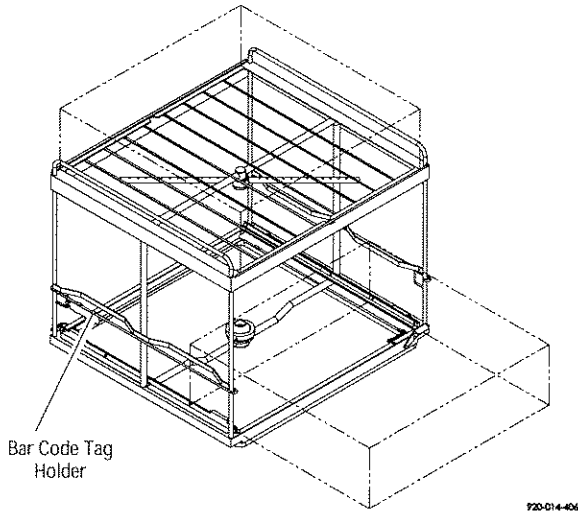

Figure 3-9. Two-Level Manifold Rack
- **Two-Level Manifold Rack** (see Figure 3-9) is designed to hold a 25-cm (10") high rack (maximum) on the bottom level, and one or two Amsco® Instrument Trays, or two mesh Instrument Trays, on the upper level.